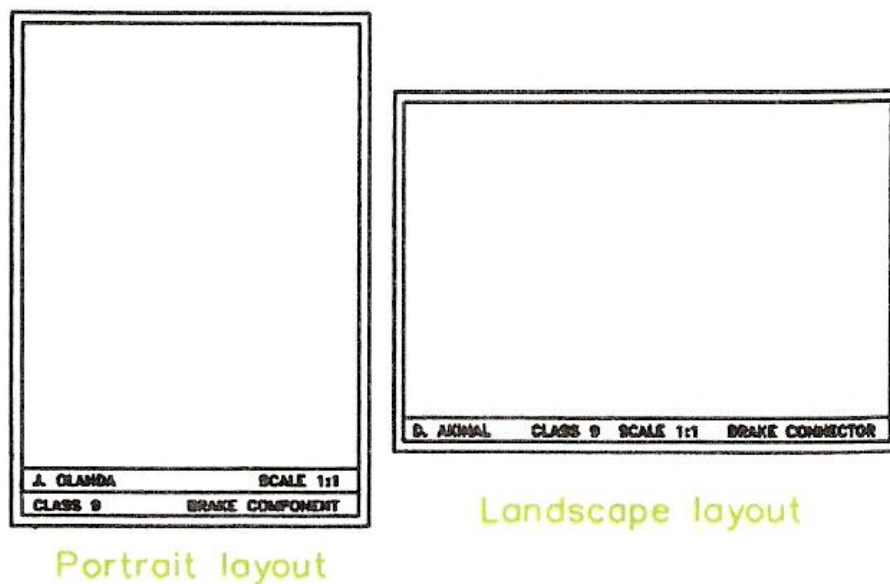

Figure 11 - Drawing Sheet Layouts Suitable for School or College Technical Drawings
Figure 11 shows two typical drawing sheet layouts for school or college use when working on A2, A3 or A4 sheets of drawing paper. The sheets can be in either an upright position, which is known as 'portrait' or in a horizontal position, known as 'landscape'. Note the following:
- **Title block area:** the examples in Figure 11 show the portrait layout with a double rectangle and the landscape layout with a single title block. In the title block details such as: